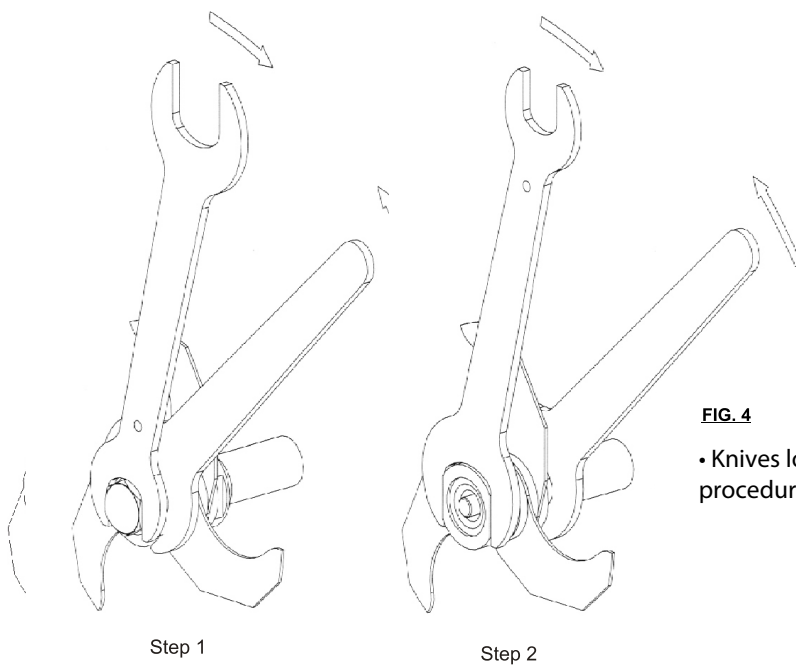
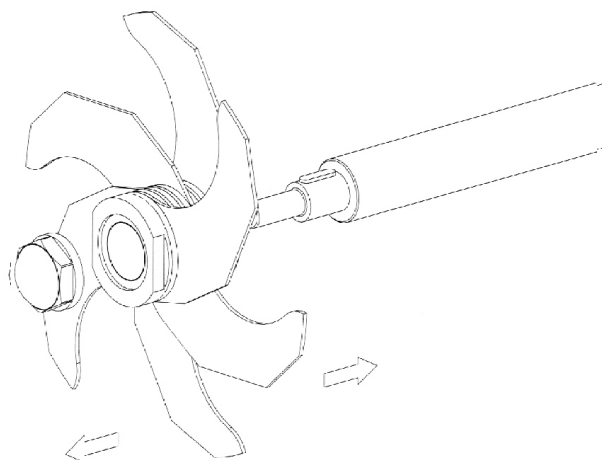

FIG. 4
FIG. 5
3. Before connecting the machine, use the wrenches provided to ensure that the knife grouping is properly tightened (Fig. 4). Tighten the knife grouping with the utmost care to avoid injury from accidentally hitting the cutting head or the knives themselves.
IMPORTANT: THE KNIFE HEAD MUST BE REMOVED IN ONE PIECE (Fig. 5) AFTER EVERY WORK DAY so that it can be cleaned thoroughly under running water. Be extremely careful not cut yourself or drop the knife assembly to the floor or on your feet. The area of the knife-bushing gasket must also be thoroughly cleaned.
In order to proceed with the cleaning or replacement of the cutting head while maintaining the settings of the existing knives, the cutting head can be removed in one piece. Proceed as follows: Disconnect the machine by turning off the main switch; for added safety, turn off the isolating switch in the main fuse board and, if possible, unplug the machine. Never touch the knife-edge with your hands. Always use gloves made of metallic netting. With the wrenches provided, unscrew the cap nut at the end of the knife shaft in a CLOCKWISE direction (Fig. 4 - step 1). Pull the entire assembly towards the left until you have separated it from the shaft (Fig. 5). If necessary, hit the base of the knife holder several times with a plastic mallet to remove it; never hit the knives themselves with any instrument or tool. To reassemble the cutting head, repeat the dismantling operations in reverse order, taking into account the assembly recommendations listed in section below.
- With the wrenches provided unscrew the cap nut at the end of the knife shaft in a CLOCKWISE direction (Fig. 4).